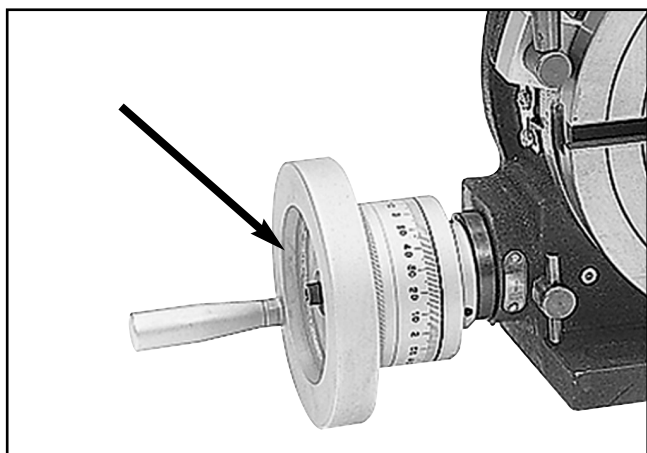

Figure 11. Crank handle cap screw.
1. Remove the crank handle cap screw as shown in **Figures 11 & 12**.